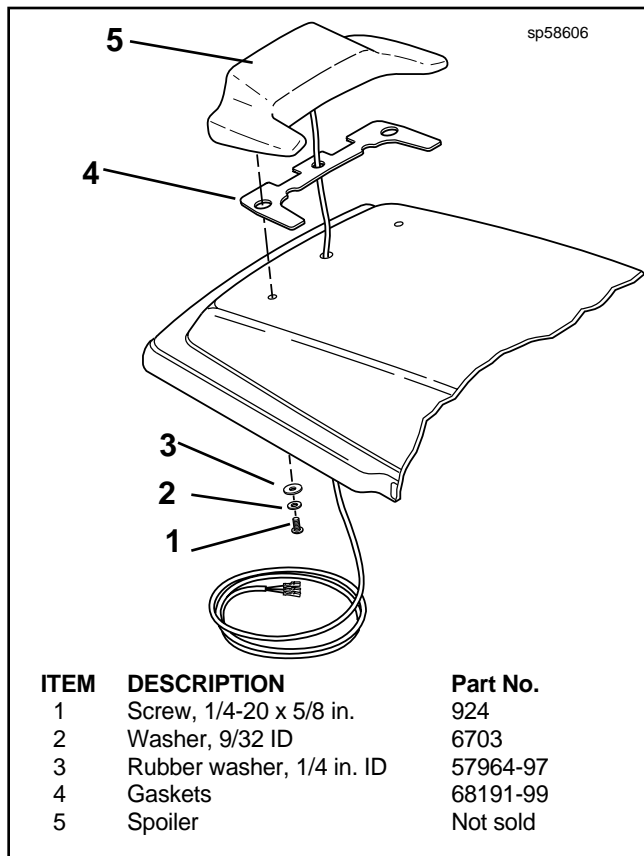

Figure 3. Spoiler assembly
6. See Figure 3. Locate gaskets from kit. Remove adhesive backing paper from gasket and attach gasket to spoiler at mounting locations. Be certain that wire is recessed into wire channel in the spoiler and wire passes through the center hole in the gasket.